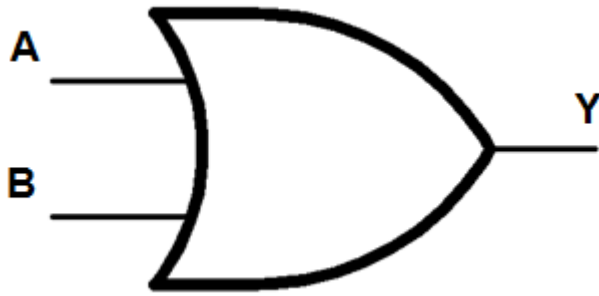

Figure 1b.
**OR** A multi-input circuit in which the output is 1 when any input is 1. The symbolic representation of the OR gate is shown in Fig. 1b.